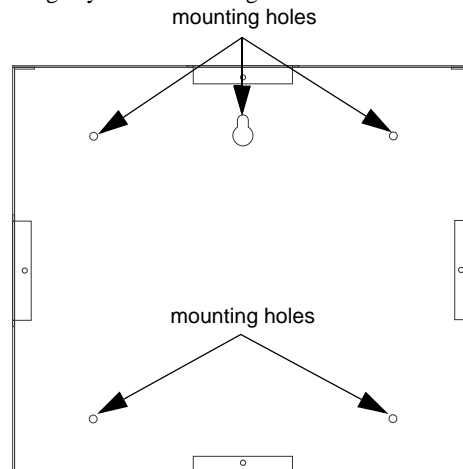

Figure 4.23 RA-2000 Backbox Mounting
- Mark and pre-drill hole in the wall for the center top keyhole mounting bolt. Refer to Figure 4.23 for mounting hole locations.